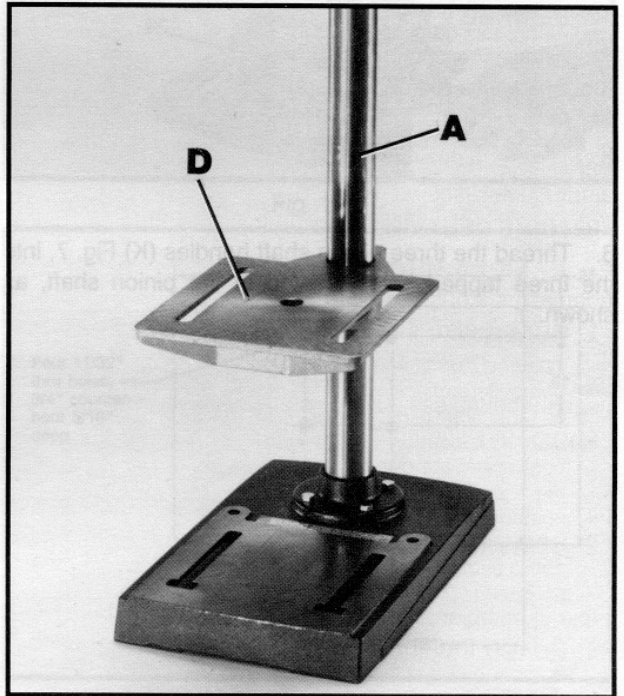

Fig. 3
2. Slide table (D) Fig. 3, on column (A), as shown.